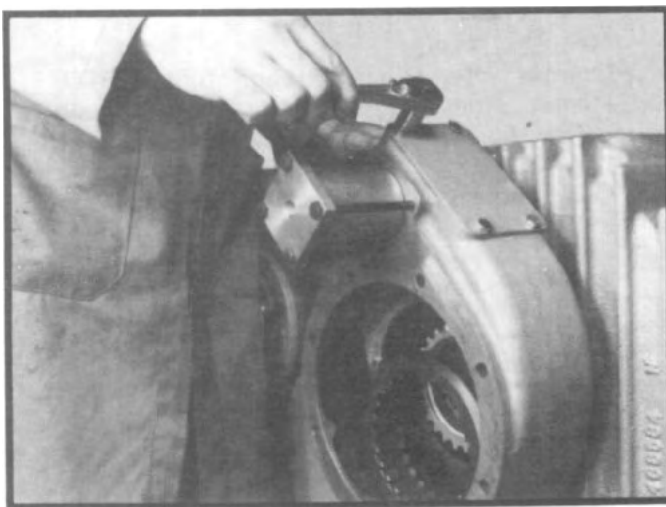

Fig. 183
15. Install cover plate with four capscrews, tightening to correct torque. (See fig. 183)